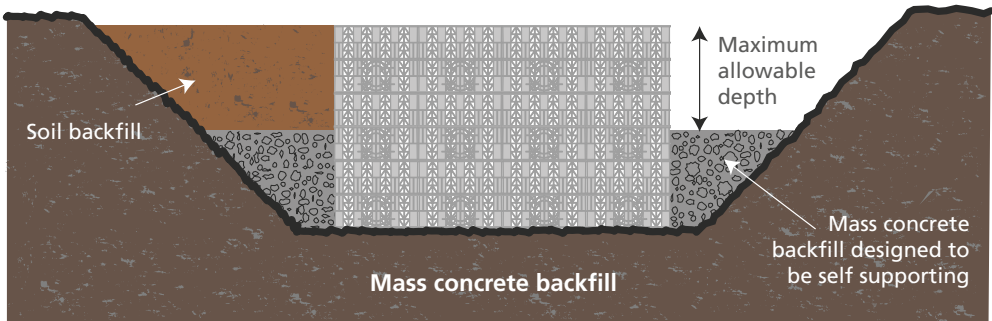

Figure 21
4. Use mass concrete backfill in the lower part of the backfill (Figure 21).